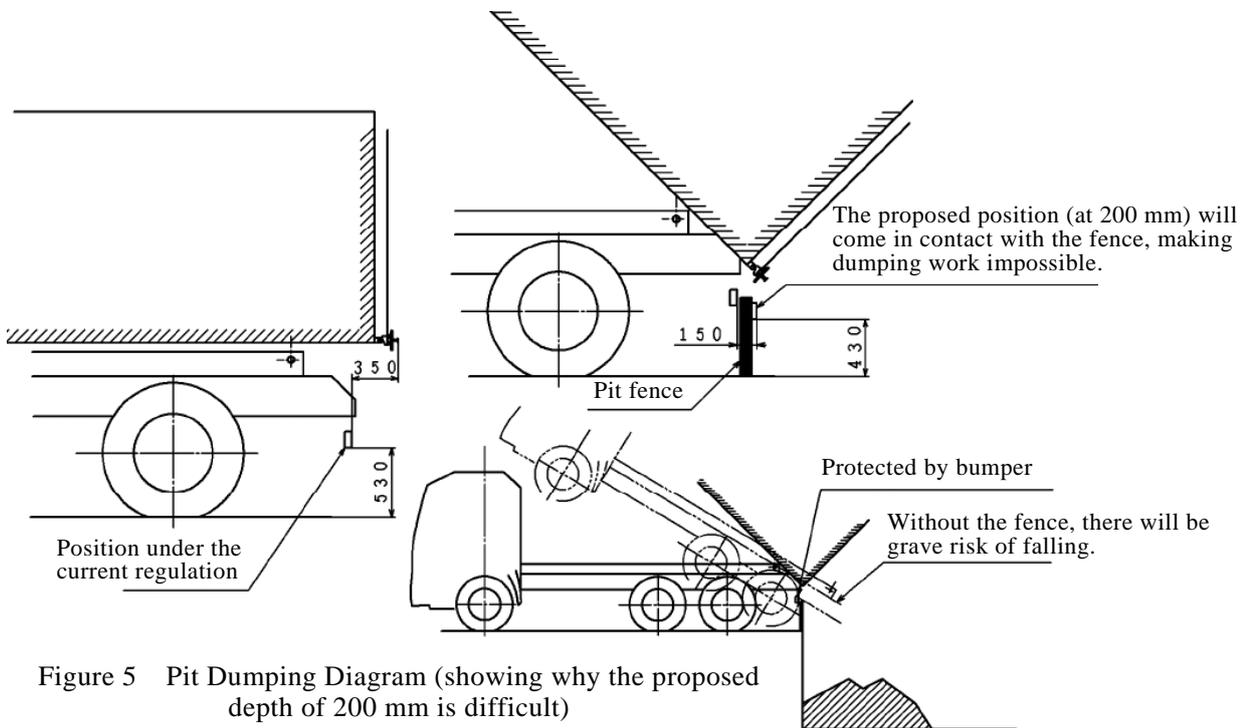

Figure 5 Pit Dumping Diagram (showing why the proposed depth of 200 mm is difficult)
6. In the case of dump trucks for industrial waste that perform pit dumping, the RUPD will come in contact with the fence for the prevention of falling, causing difficulties in dumping work. It will also cause danger if the fence on the pit side is lowered. (Figure 5)